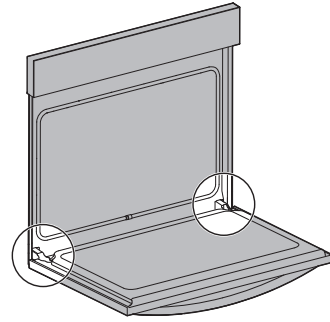

Figure 12: Door hinge location
1. Open oven door completely, horizontal with floor (Figure 12).
3. Fully open the oven door, horizontal with floor (Figure 12).